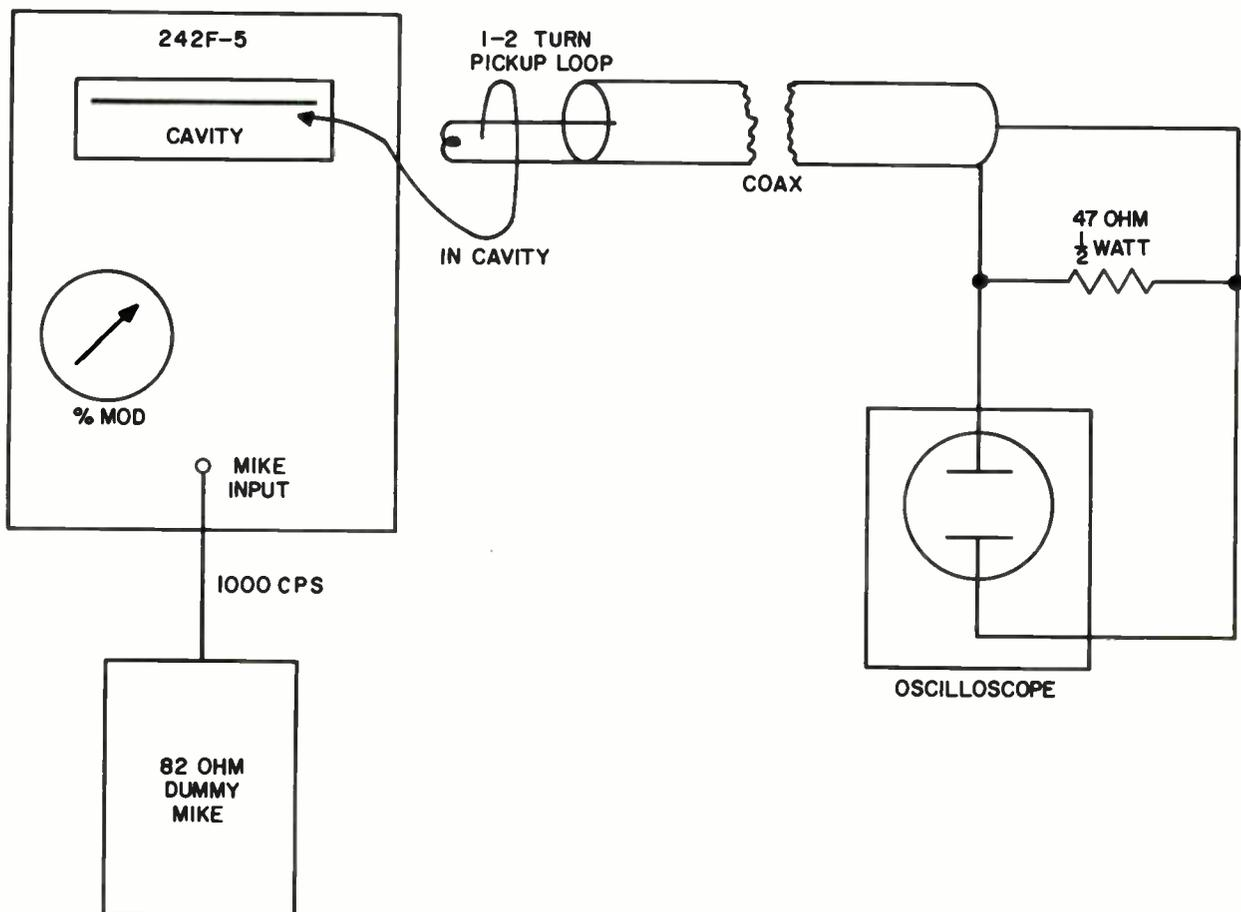
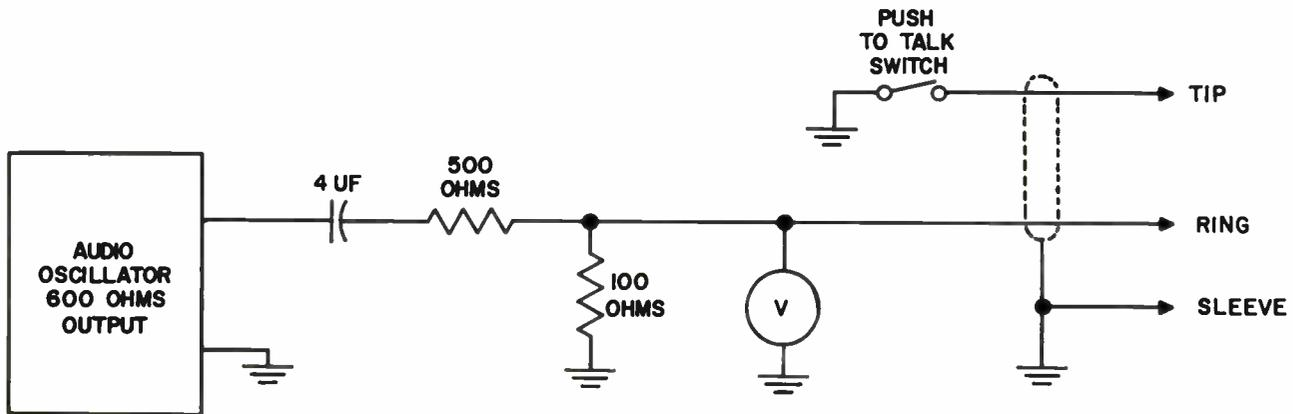

Figure 6-7. Percent Modulation Indicator, Calibration Test Setup
Figure 6-8. 82-Ohm Dummy Carbon Mike for Percent Modulation Meter Calibration, Test Setup
6.6.2 PERCENT MODULATION INDICATOR CALIBRATION. (Refer to figure 6-7 and figure 6-8.)
- Components indicated in figures 6-7 and 6-8